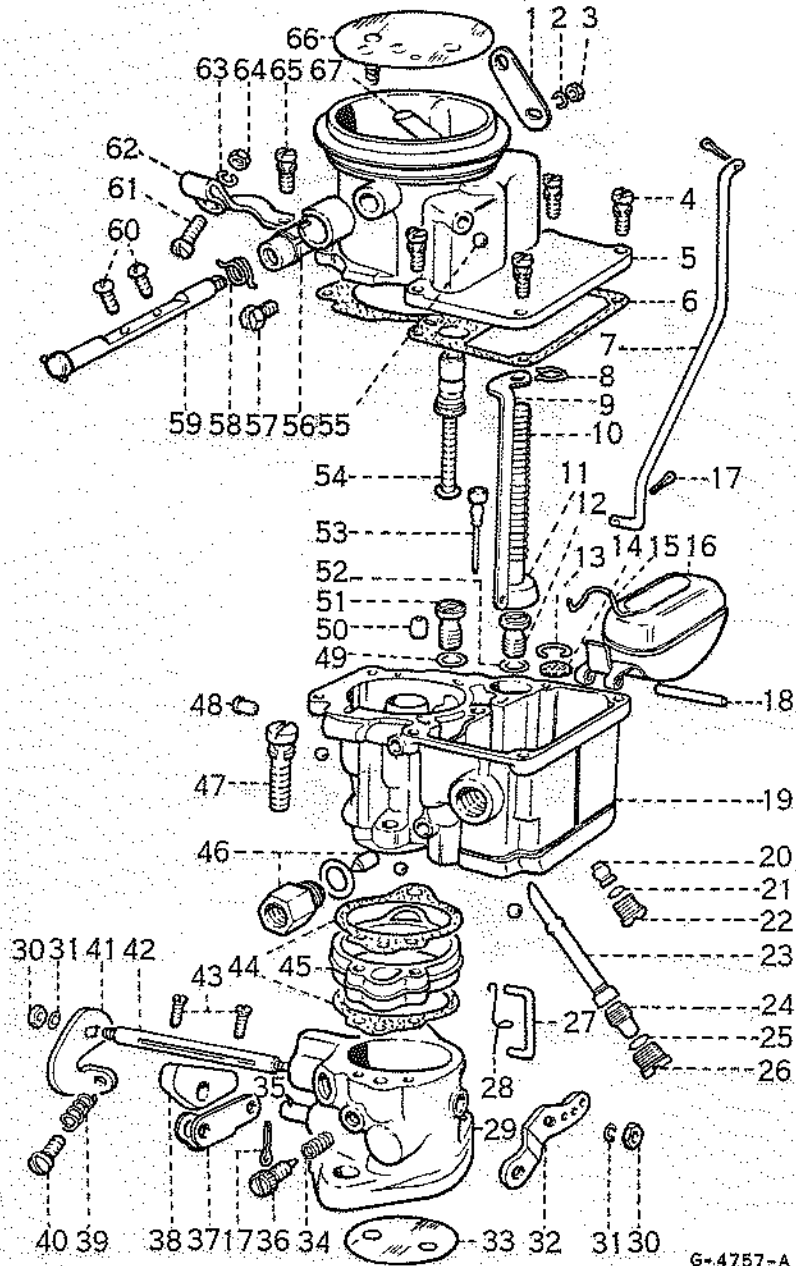

Fig. 9 - Series BX Carburettor (Exploded View)
(See Fig. 9 for key)
1. Assemble fast idle cam (38) and lever (37) and throttle lever and shaft (42) (see Figs. 9 and 13).
2. Assemble throttle valve (33) leaving attaching screws (43) loose. Align valve to scribe marks and then check valve for best closing against a light. Tighten screws.
3. Assemble lever (32) lockwasher and nut. Securely tighten nut.
4. Assemble throttle stop screw (40) and spring
5. Replace idle needle valve (36) and spring.
1. Replace drive and lead ball plugs. Assemble main discharge jet (23) in main body (see Figs. 9 and 14).
1. Replace lead ball plugs (See Figs. 9 and 15).
2. Assemble choke shaft (59), choke valve (66) and attaching screws. Close choke and align valve for best closing before tightening SCREWS. Choke shaft should not bind in any position of operation. Assemble vacuum piston (54) in air horn.
(See Fig. 9 for Key)
1. Place gaskets (44) and spacer (45) on throttle body (See Figs. 9 and 16).
2. Attach main body to throttle body with screw and lock washers (47) and tighten securely. Set fuel level before assembling air horn.
3. Assemble air horn on main body, using screw and lock washers (4). Tighten screws uniformly.
4. Attach short end of fast idle rod (7) to choke lever, then attach lower end of rod to fast idle cam lever using cotter pin. (17).